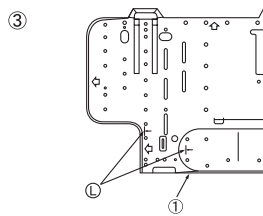
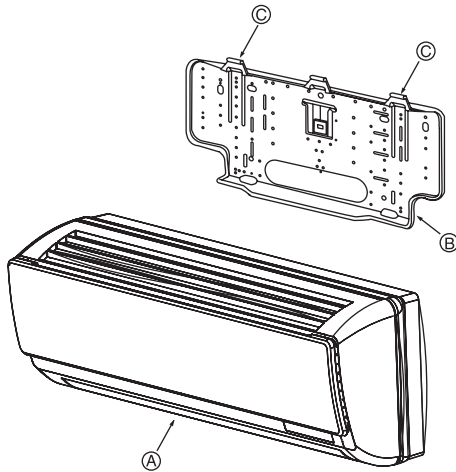

Fig. 3-7
Fig. 3-8
- ③ If the flare pipe is to be embedded into the wall in advance: (Fig. 3-7)
- ① Wall mounting fixture
3.3. Mounting the unit (Fig. 3-8)
- ① Securely place the hanging fixtures for the indoor unit over the catches on the wall mounting fixture.
- ② When piping has been completed, install the indoor unit and wall mounting fixture with fixing screws.